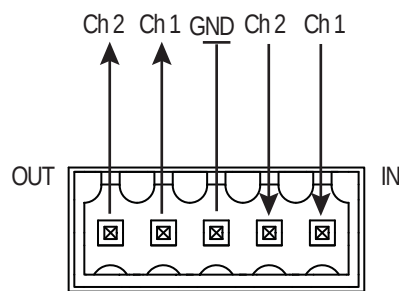

**Figure 2-4**
2. Connect the other end of this cable to the front panel data terminal block connector on the LBO-DVI-EAD (see Figure 2-4).